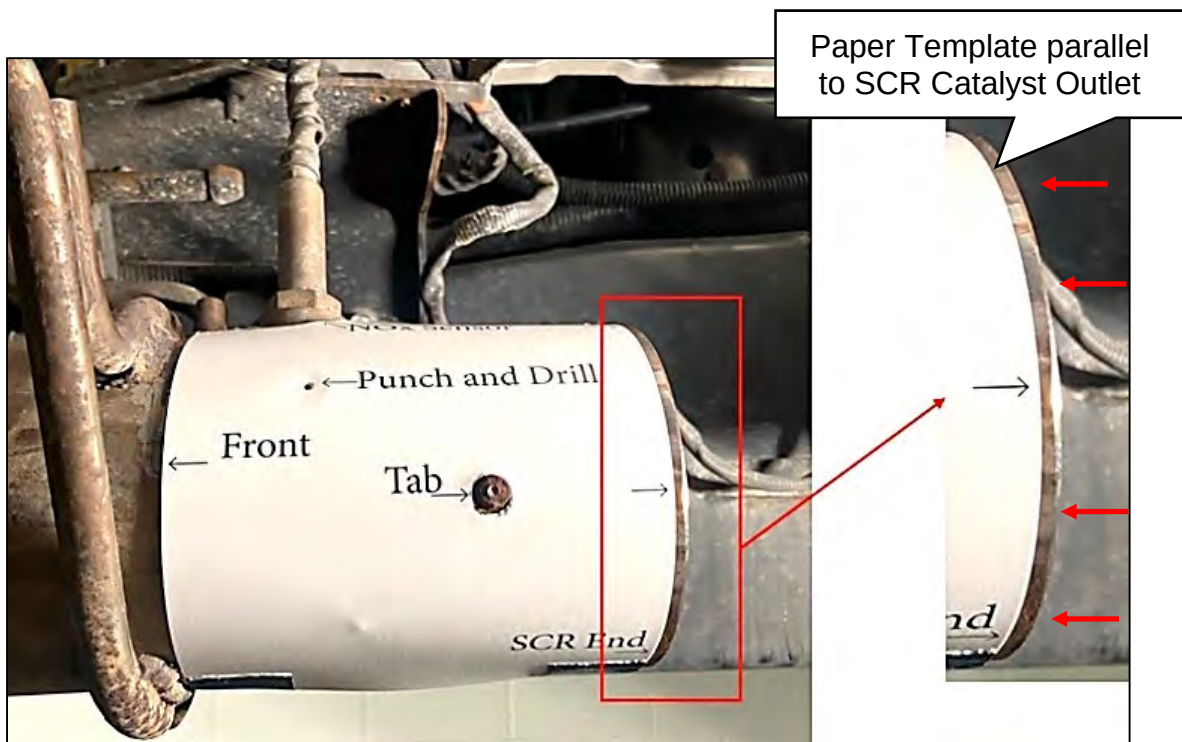

Figure 17
- b. Adjust the Paper Template until the right side of the Paper Template is parallel with the SCR catalyst outlet (Figure 17).